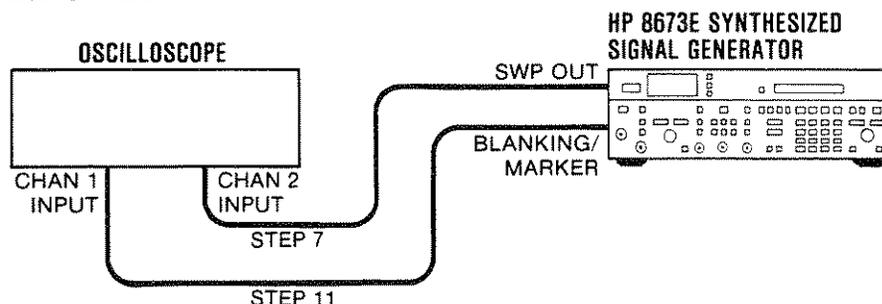

Figure 5-44. Sweep Out and Blanking/Marker Adjustments Test Setup
7. Connect the Signal Generator to the oscilloscope's channel 2 input as shown in Figure 5-44.